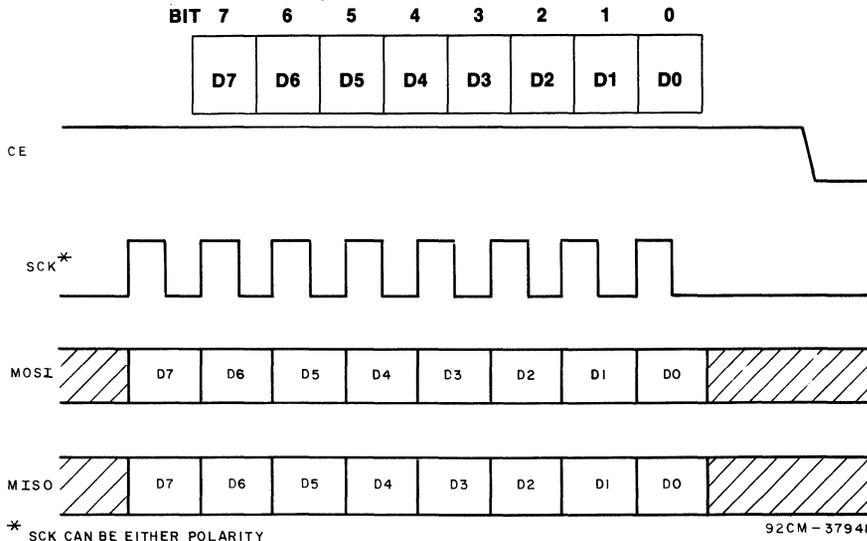

Fig. 10 - Read/Write data-transfer waveforms.
2. READ or WRITE Data - Fig. 10
### READ/WRITE DATA - (See Fig. 10)